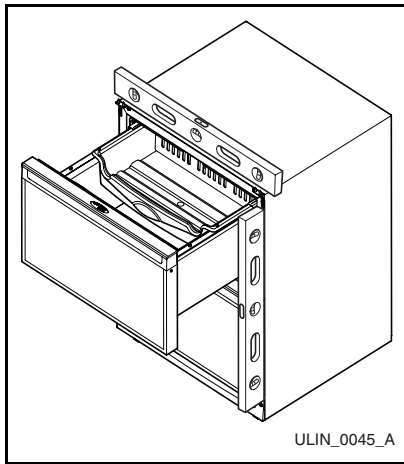

Figure 15
1. Use a level to check the levelness of the unit from front to back and from side to side. Place the level along top edge and side edge as shown (**Figure 15**).